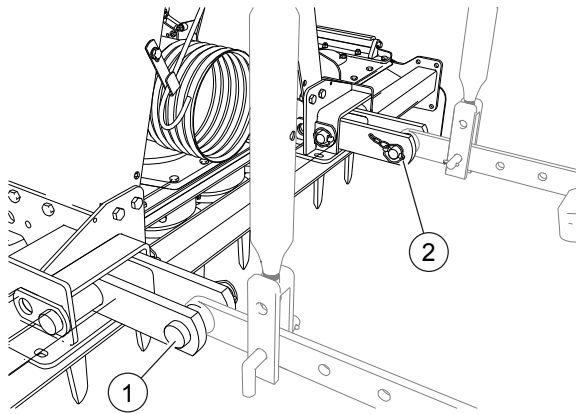

FIG. 18
- Move the power-lift bars to the lower hitches (“Fig. 18”). Insert the attachment pins (1). Fasten the pins with the trigger pins (2) part of standard equipment.